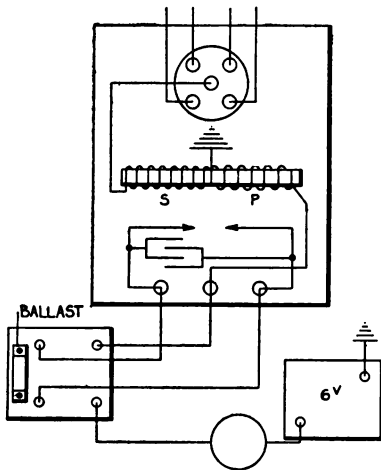

Fig. 435. Westinghouse Ignition Wiring
**Westinghouse Vertical Ignition.** In removing the ignition unit for repairs, disconnect the three wires; it is not necessary to mark them. Retard the spark fully and make a light scratch on each side of the rotor in this position, thus making the replacement easy. In replacing, turn the rotor to the marks on the collector ring and slip the gears into mesh. Then turn the ignition switch on and hold the three wire terminals near the frame, connecting to either outside terminal post the one that sparks to the frame. Turn the switch a half-turn to the other on position and try the other wires. Next place the live wire on the other outside post and the remaining wire on the center post. When either of these wires shows a heavy discharge to the ground instead of about 8 amperes, it will be known that the switch is not connected properly; this applies to a single-wire system, Fig. 435. If the connections are wrong, the coils may burn out.